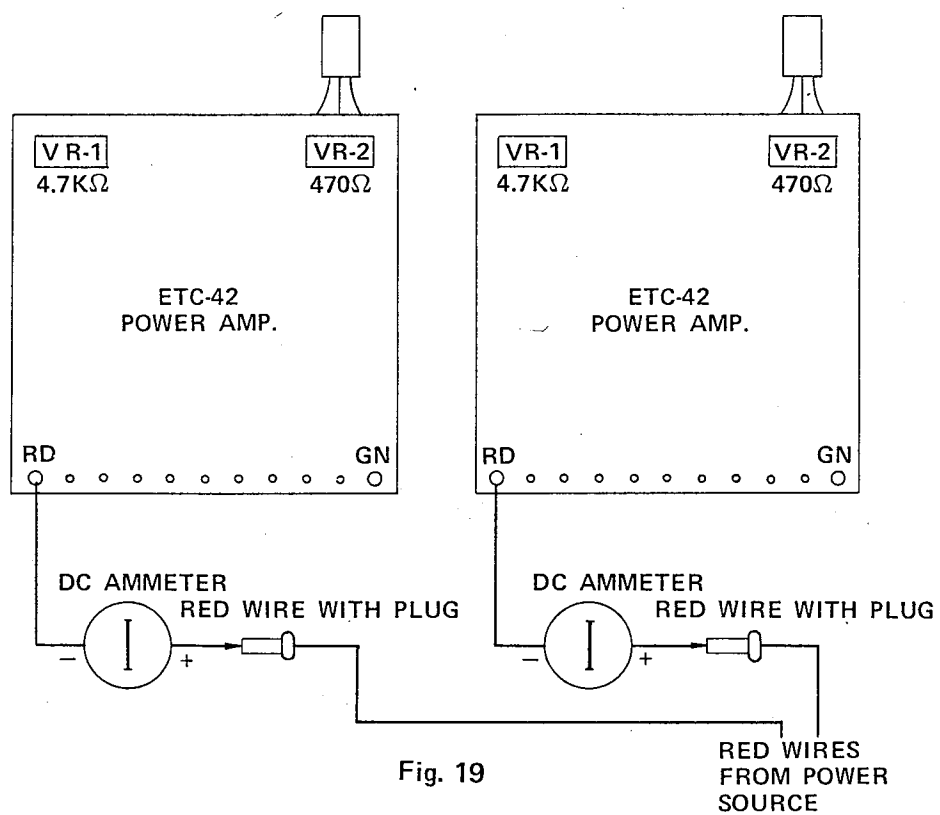

Fig. 19
- B. Remove the plug (red wire) from the No. 1 terminal (+B) of the Power Amplifier Unit (ETC-42) and connect the DC ammeter to each channel. (See Fig. 19)